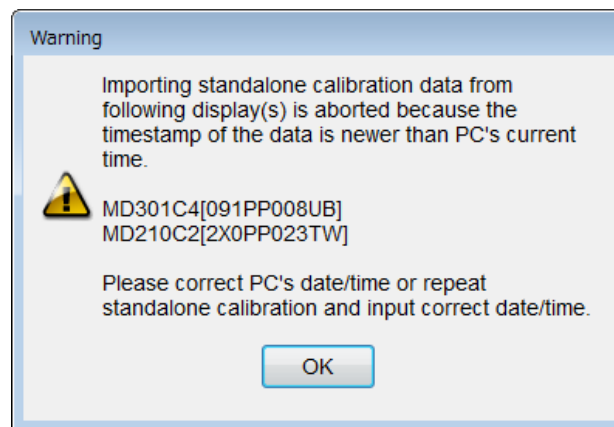

Figure 87: Warning Dialog
- If the Stand Alone Calibration has a timestamp which is newer than the system time, a warning dialog (**Figure 87**) is displayed when the Main screen of GammaCompMD QA Client is opening. The results of the **Stand Alone Calibration** cannot be imported. Repeat the **Stand Alone Calibration** and enter the correct time.